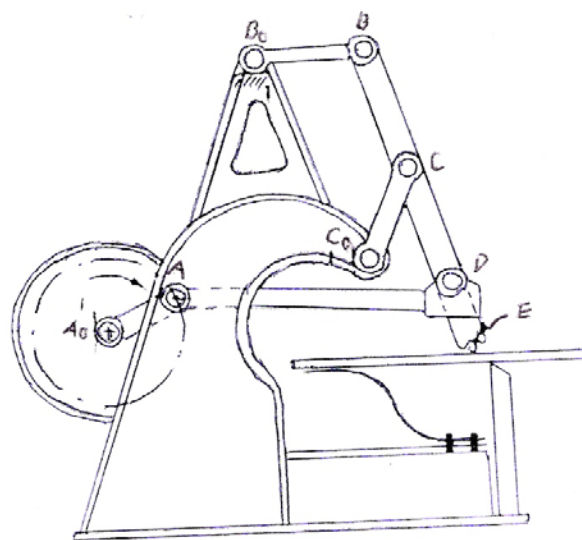

Fig 5
5. In the polishing machine shown in Fig 5